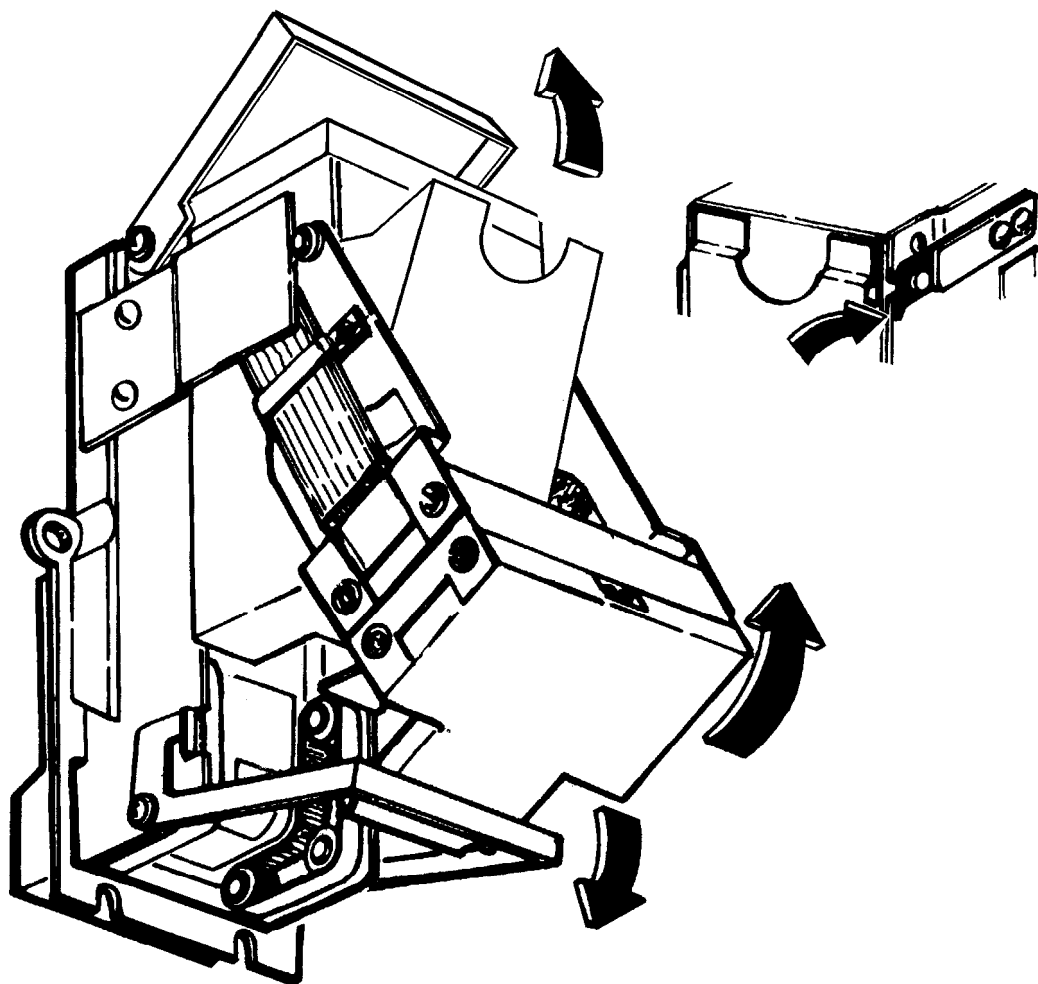

Figure 5-2. Early and Intermediate Style USA Acceptor.
Early USA	Top and bottom latches consist of spring-loaded, U-shaped metal bails which must be moved to permit opening of the bill box or to reveal the note path. Latches work independently of each other (see Figure 5-2). Discontinued style; may still be in service.
Intermediate USA	Same as early USA except top bail replaced by a spring clip (see Figures 5-2 and 5-3, item 1). Discontinued style; may still be in service.
Early and Intermediate USA acceptors: (see Figure 5-2):